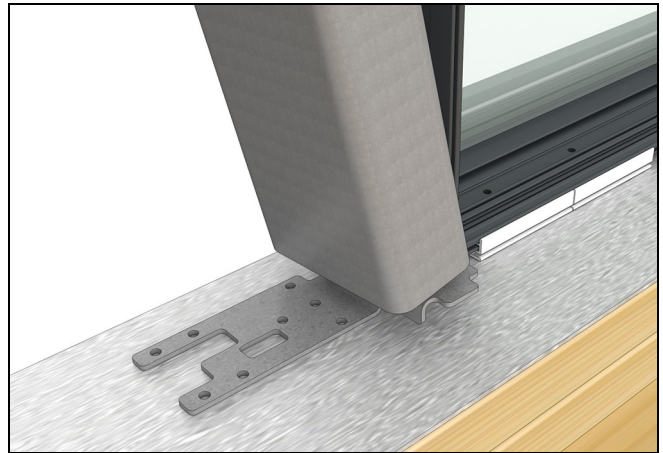

Figure 78
7. Fit the bottom of the tube steel over the raised end of the sill bracket. See Figure 78.